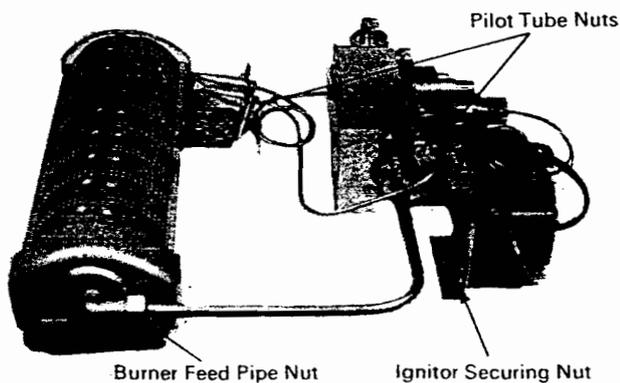

Fig. 19. Burner and Controls (ii)
13. Clean the pilot (Fig. 19)
Piezo Unit (Fig. 19)